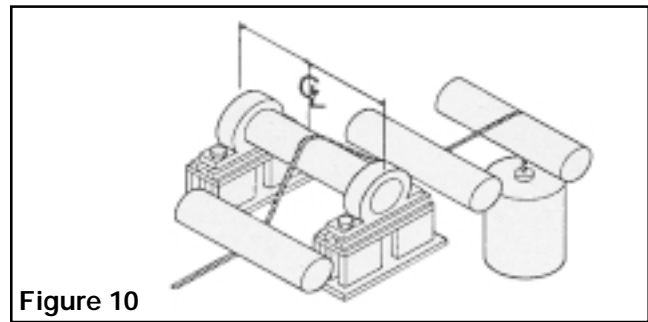

Figure 10
1. Thread a rope or narrow web over the sensor roll in the normal web path, making sure that the rope is in the center of the sensor roll. Hang a known weight (weight must be less than the Maximum Full Scale) on one end of the rope. Secure other end of rope to machine with the known weight held off the ground (See Fig. 10).